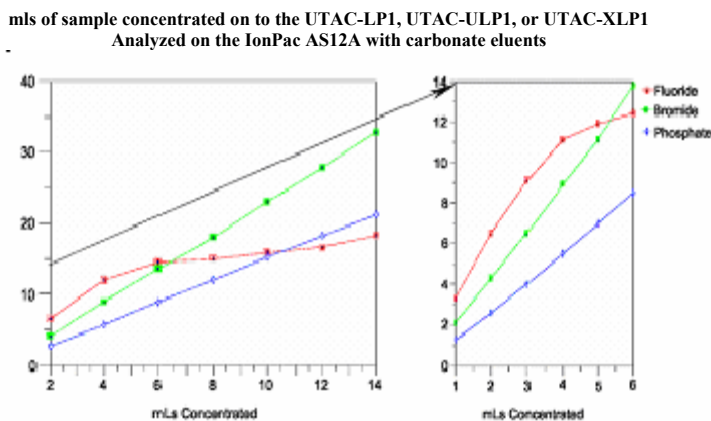

FIGURE 5
- D. A plot of response versus concentration should be generated as in Figure 5, "Linearity Determinations for Concentrator Injection", for the determination of the maximum amount of sample or standard that can be quantitatively loaded. In Figure 5, the break in the curve where linearity starts to change is at a concentration volume of 2 mL of 30 $\mu\text{g/L}$ fluoride. For practical purposes, the amount concentrated for a series of samples should be 75% of this value. This will ensure that there is a safety margin built into the concentration process in case a sample in a series of concentration experiments has a slightly higher ionic concentration.